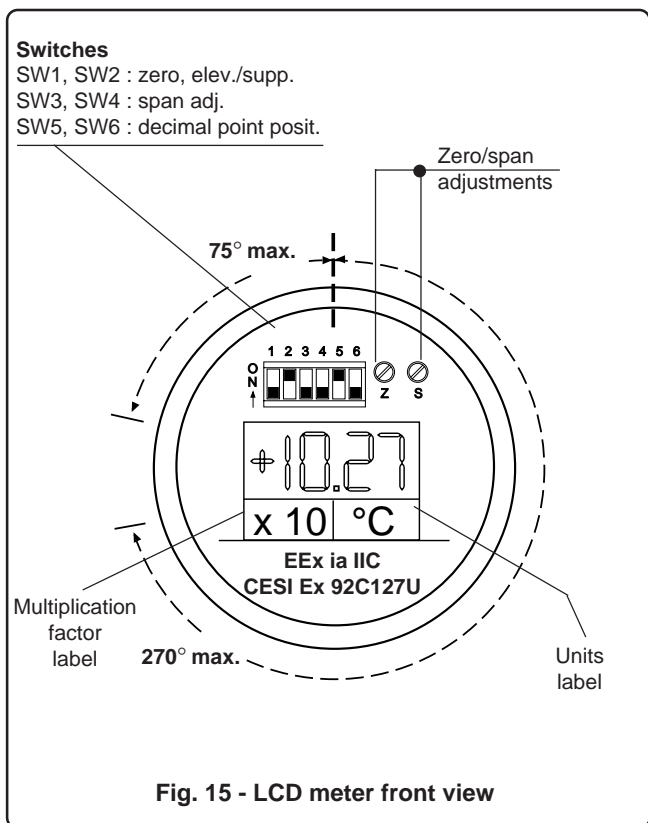

Fig. 15 - LCD meter front view
- 4) Plug the meter (see fig. 14) and rotate as required for an viewing. The meter can rotate, in 15° steps, 270° degree clockwise and 75° counterclockwise (see fig. 15). Further rotation causes damage to the meter stop or of the "banana" connections and should be avoided. Note that considerable torque must be applied for 15° rotation.
- 2) Adjust the zero trimmer (Z) to read approximately the lower range value (LRV) on the digital meter.
- 4) Adjust the span trimmer (S) to read approximately the upper range value (URV) on the digital meter.
- 7) Complete the calibration procedure by fitting the multiplication factor label (if any) in the left recess below the display and the engineering unit label in the right recess (see fig. 15).